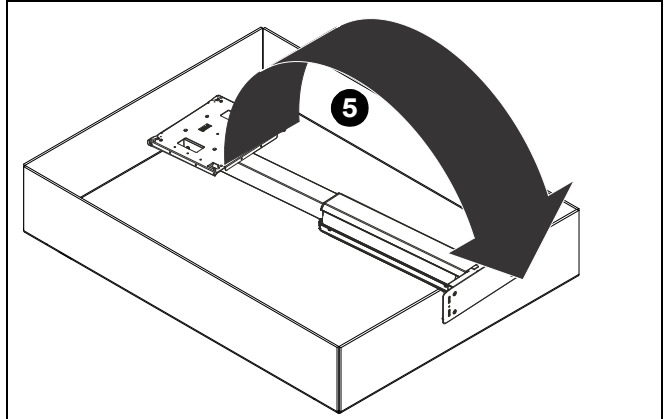

Figure 3
5. Remove stand from box by tipping it from the top onto the floor plate. (See Figure 3)